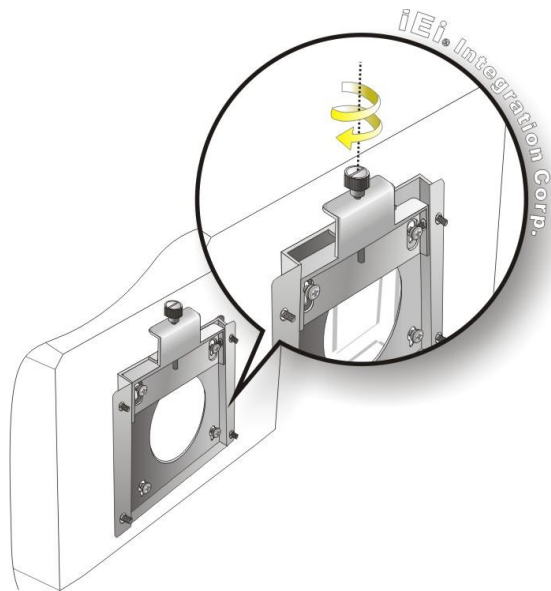

Figure 3-8: Secure the Panel PC
Step 9: Secure the panel PC by fastening the retention screw of the wall-mounting bracket (Figure 3-8).